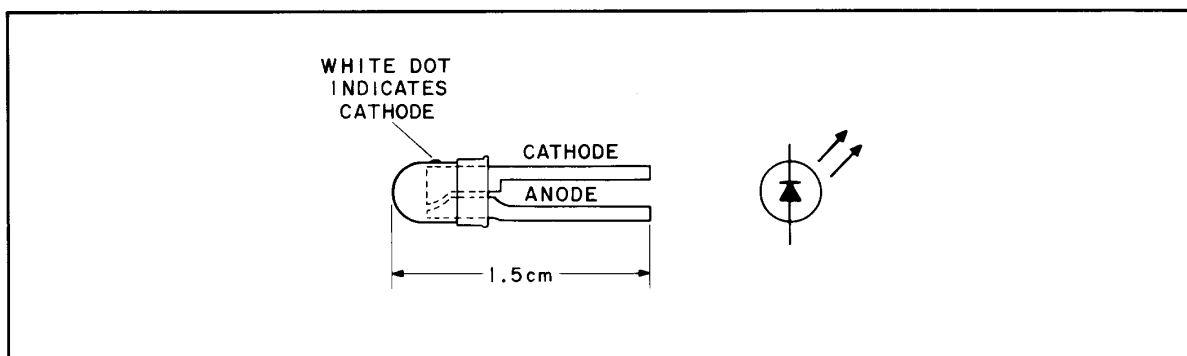

Figure 8-115. Identification of Leads on UNLOCKED LED
5. Trim both leads of new LED to 1.5 cm (0.6 inches). (See Figure 8-115.)